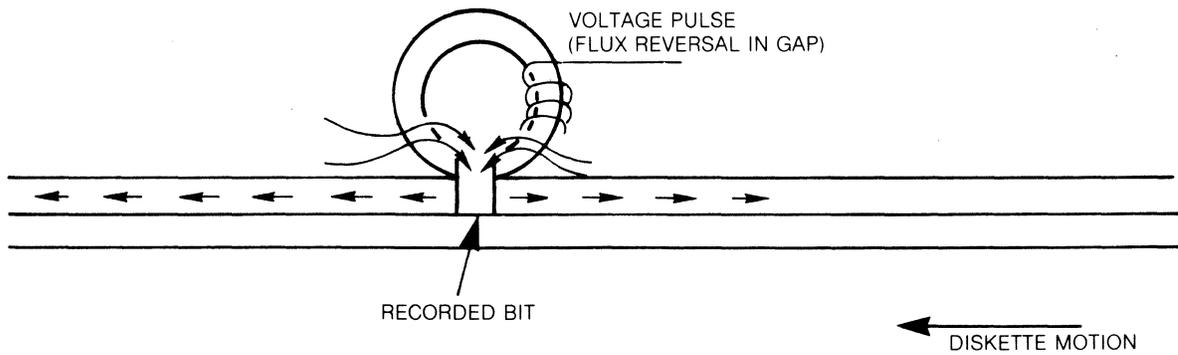

FIGURE 28. READING A BIT
1.4.4 During a read operation, a bit is read when the flux direction in the ring is reversed as a result of a flux reversal on the diskette surface. The gap first passes over an area that is magnetized in one direction, and a constant flux flows through the ring coil. The coil registers no output voltage at this point. When a flux transition passes under the gap, the flux flowing through the ring and coil will make a 180° reversal. This means that the flux reversal in the coil will cause a voltage output pulse. See Figure 28.